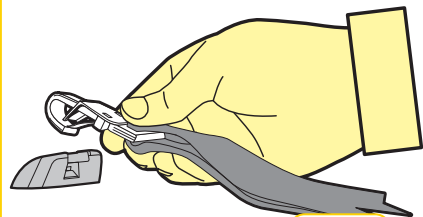

Figure 8
**Step 6:** Hook the attachment clip to the upper anchor fitting (refer Figure 8). Ensure there are no twists in the top tether strap.